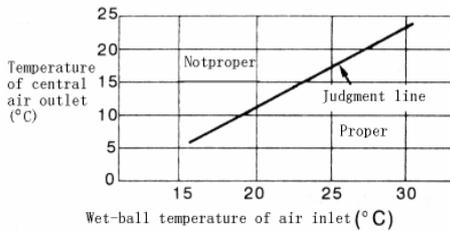

Fig.21-15
(11) After the temperature of air outlet is stable (operating A/C for 10~15 minutes), measure the temperatures of air outlet and air inlet.
(12) Draw a point using the readings in step 11 on below figure; it is proper if the point is below the judgment line. (See Fig.21-15)
TEMPERATURE DAMPER CABLE CONNECTION(See Fig21-15)